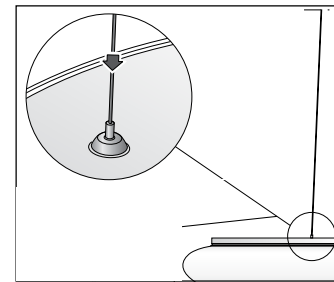

Figure 4: Cable Shortening
4. Feed steel wiring into nozzle of grip lock connector located on the pendant to reduce length of steel wire as required. [Figure 4]